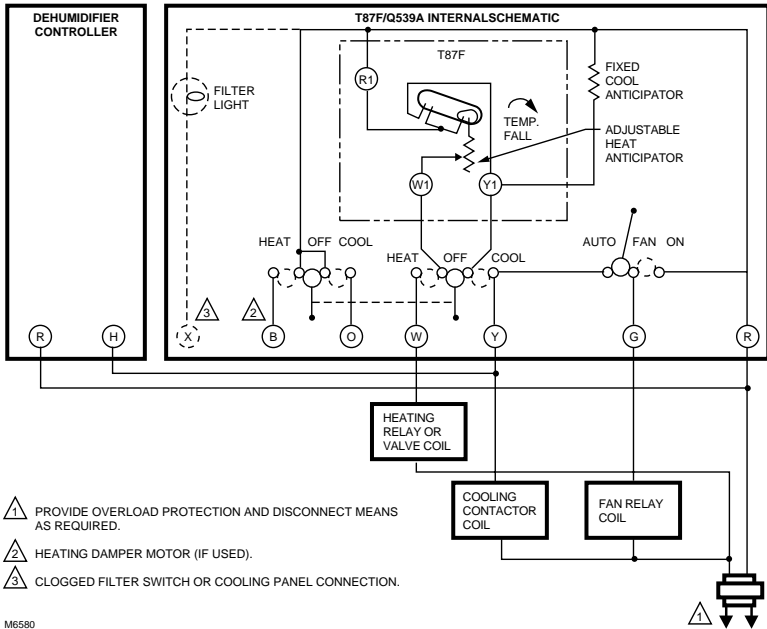

Fig. 5. Typical parallel wiring diagram of dehumidifier controller with T87F/Q539A combination for dehumidification and mildew control.
- 5 Run a low voltage wire from the humidity controller to the template (Fig. 5 and 6).
All wiring must comply with local codes and ordinances. Follow the equipment manufacturer wiring instructions when available; otherwise, see the typical wiring diagrams in Fig. 5 through 7.